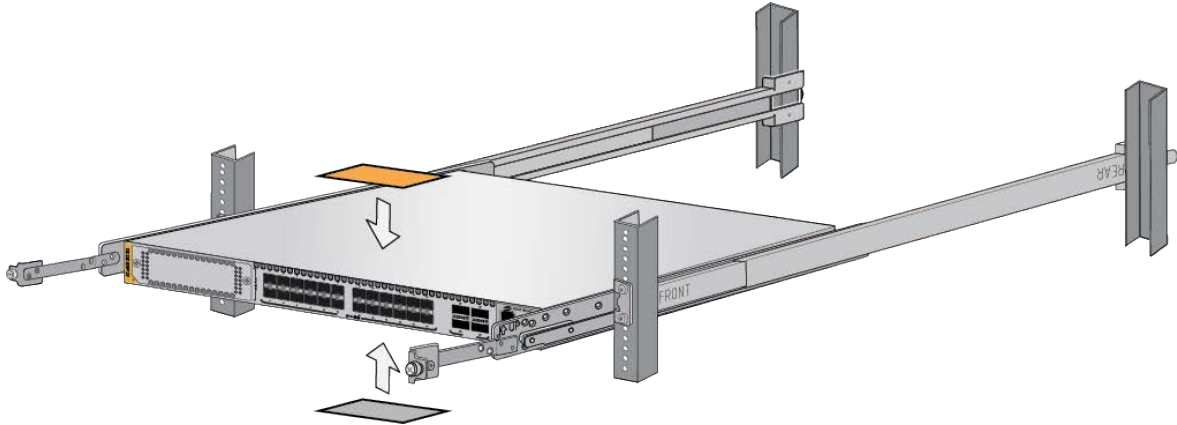

Figure 88. Affixing the Warning Labels
2. Affix the provided warning labels to the top and bottom of the switch, in locations immediately visible when removing the device from the rack. Refer to Figure 88 on page 160.